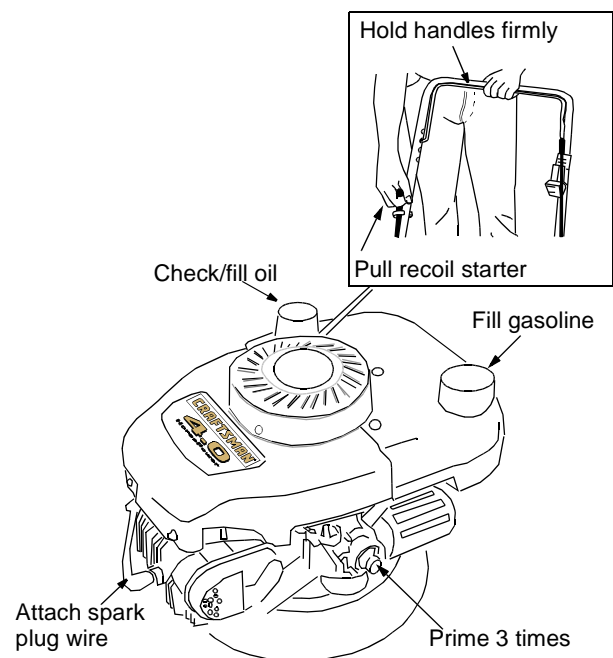

Figure 11
(Refer to Figure 11.)
- Hold control handle against the upper handle. Grasp recoil starter and pull rope out slowly until engine reaches the start of compression cycle (rope will pull slightly harder at this point). See Figure 11 inset. Let the rope rewind slowly.